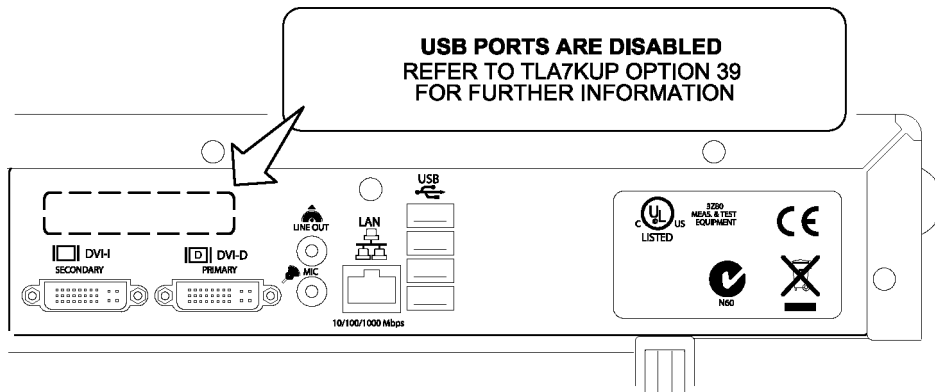

Figure 56: Attach the notification label to the rear of the instrument
2. Attach one of the USB PORTS ARE DISABLED notification labels on the top rear of the instrument. (See Figure 56.)